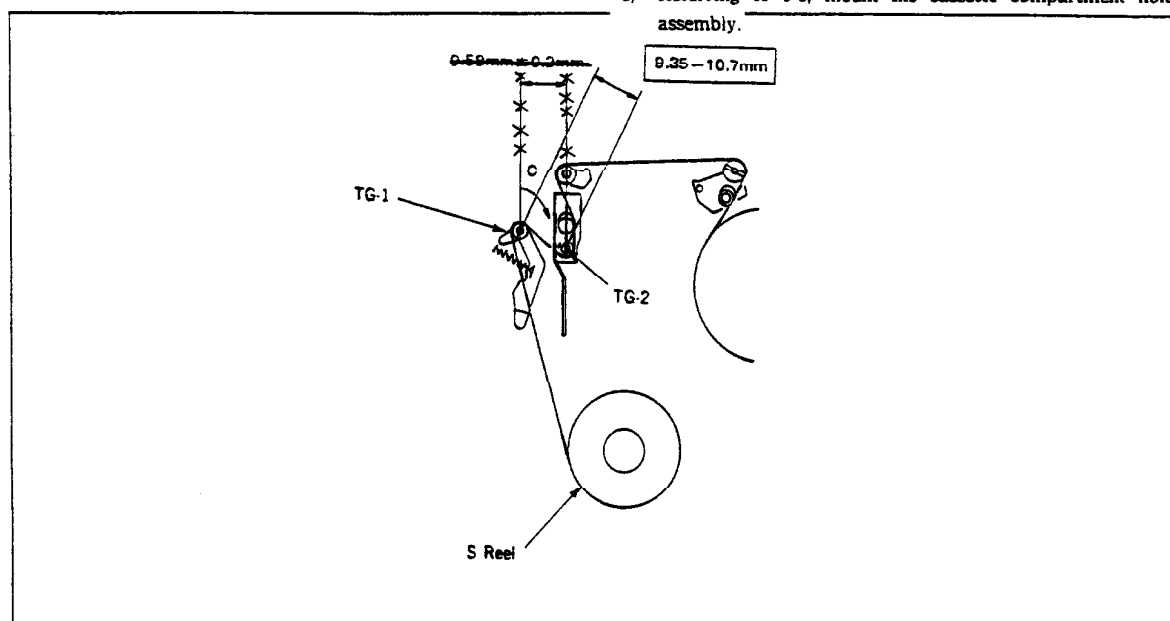

Fig. 47
- 2) With the tape running, check that the distance between TG-1 and TG-2 is ~~9.50-10.0mm~~ (Fig. 47)
- 5) Loosen the screw ①.